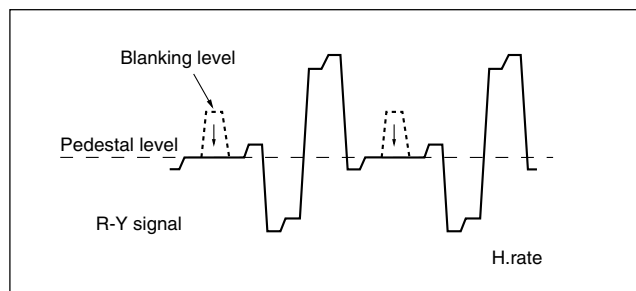

Fig. 3-6-5 DEMOD Fo-3
- (4) Connect an oscilloscope to TP4 round (R-Y), and adjust L5 so that the blanking level of the R-Y waveform is equalized to the pedestal level as shown in Fig. 3-6-5.